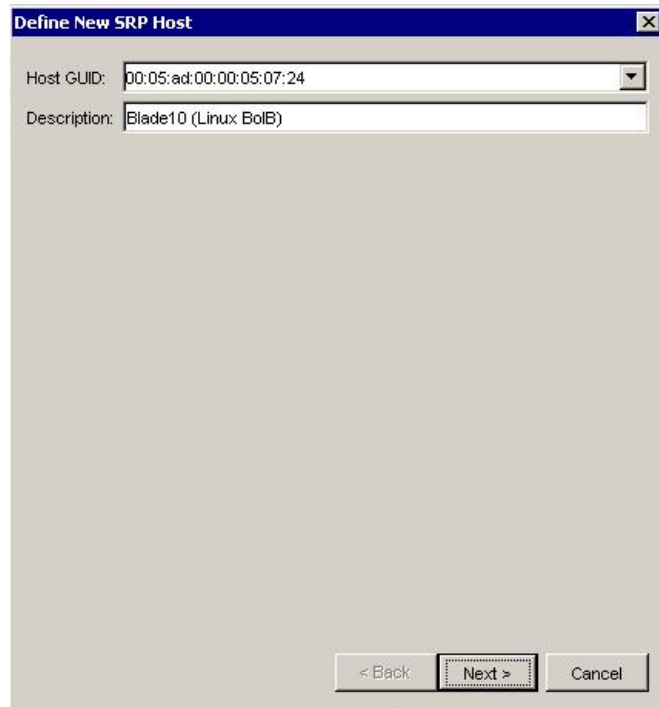

Figure 6-5 Select the host GUID from the drop-down list
- Click **Define New**. The define New SRP Host Windows displays as shown in Figure 6-5.
- From the drop-down menu, select the GUID of the blade that you recorded in step 1 on page 98 as shown in Figure 6-5.
- In the description field, you can specify some text that identifies the SRP host. In Figure 6-5, the description *Blade10 (Linux BoIB)* means that this blade is in slot 10 in the BladeCenter H chassis and boot over InfiniBand with Linux.